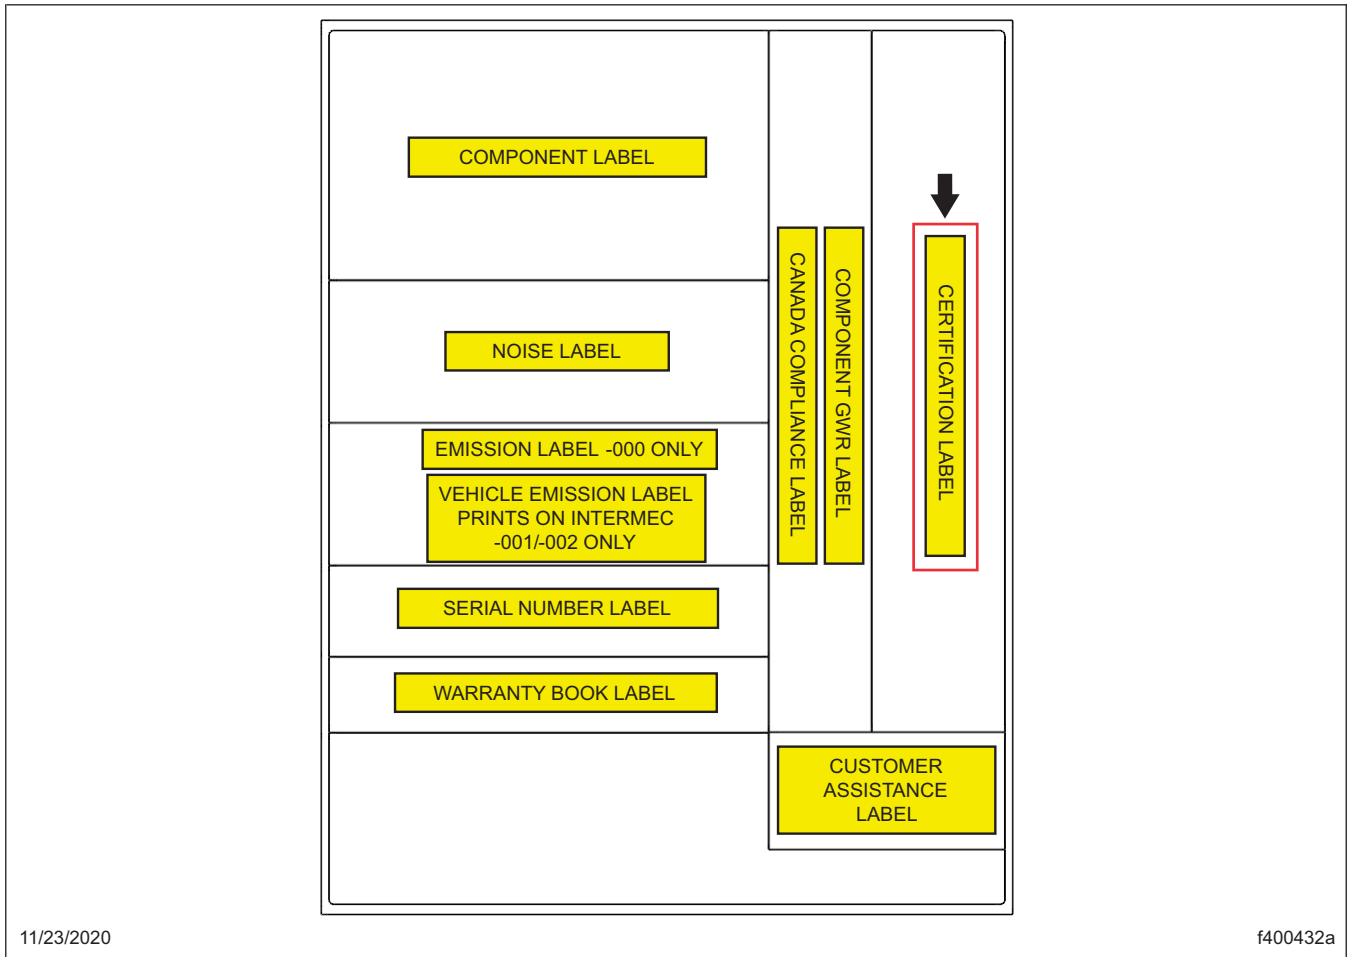

Fig. 14, FMVSS Certification Label Location, Recall Kit, Western Star
3. Locate the new FMVSS certification label. See Fig. 14 for the label location on the label sheet. Make sure the VIN on the current FMVSS certification label matches the VIN on the new FMVSS certification label.